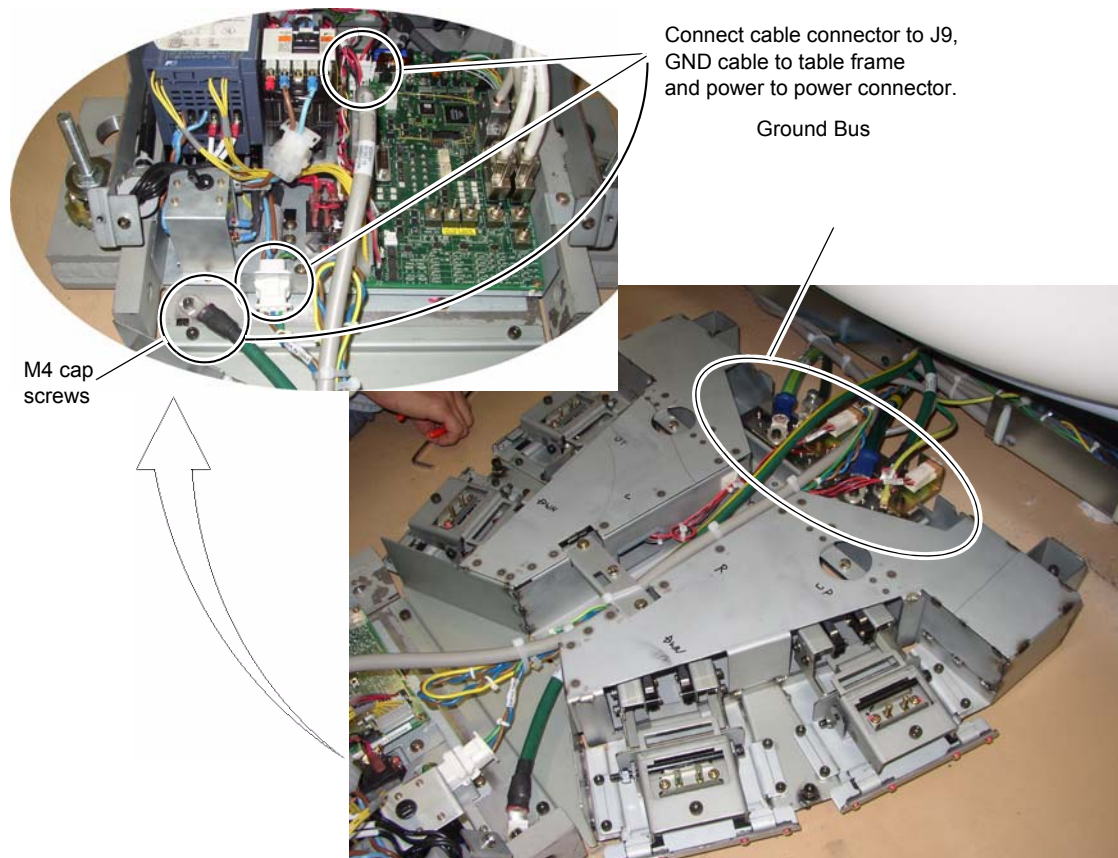

Figure 1-52 Footswitch Assembly Cable Wiring
- 8.) Cut the tie-wraps from around the cables in the gantry base and route the power cables from the gantry as shown in Figure 1-52.